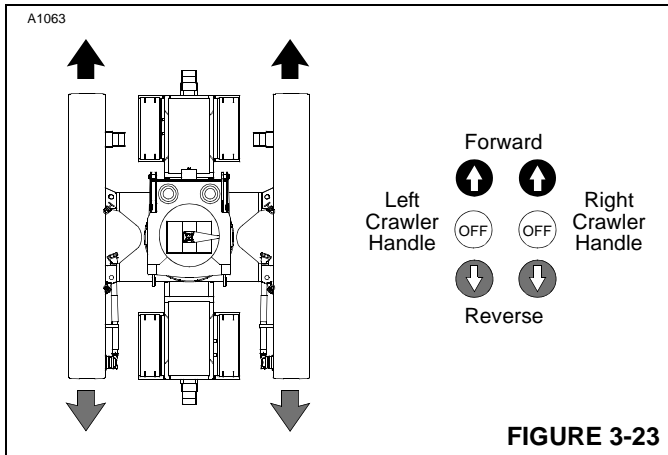

FIGURE 3-23
7. To TRAVEL STRAIGHT (Figure 3-23), move both crawler handles same amount in desired direction from off.